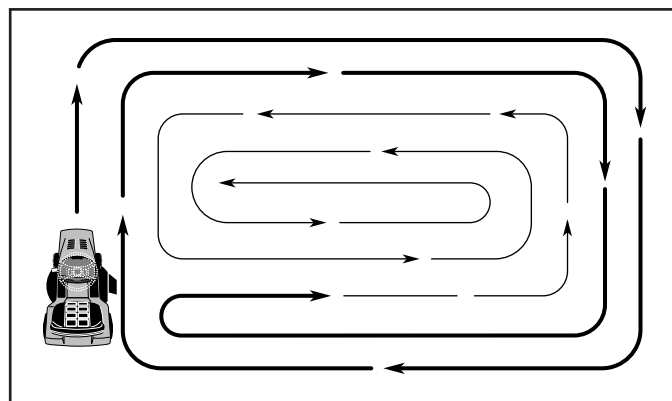

Fig. 8
- When mowing large areas, start by turning to the right so that clippings will discharge away from shrubs, fences, driveways, etc. After one or two rounds, mow in the opposite direction making left hand turns until finished (See Fig. 8).